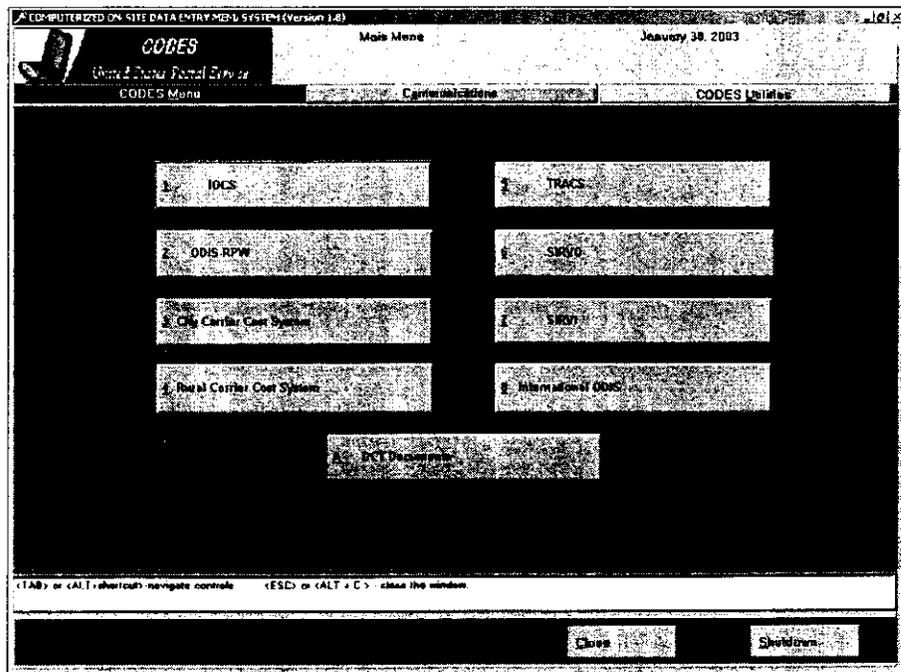

Figure 4.1.1-1. CODES Main Menu: CODES Menu Tab
1. The **CODES Main Menu** screen displays after the CODES Laptop boots up (Figure 4.1.1-1).